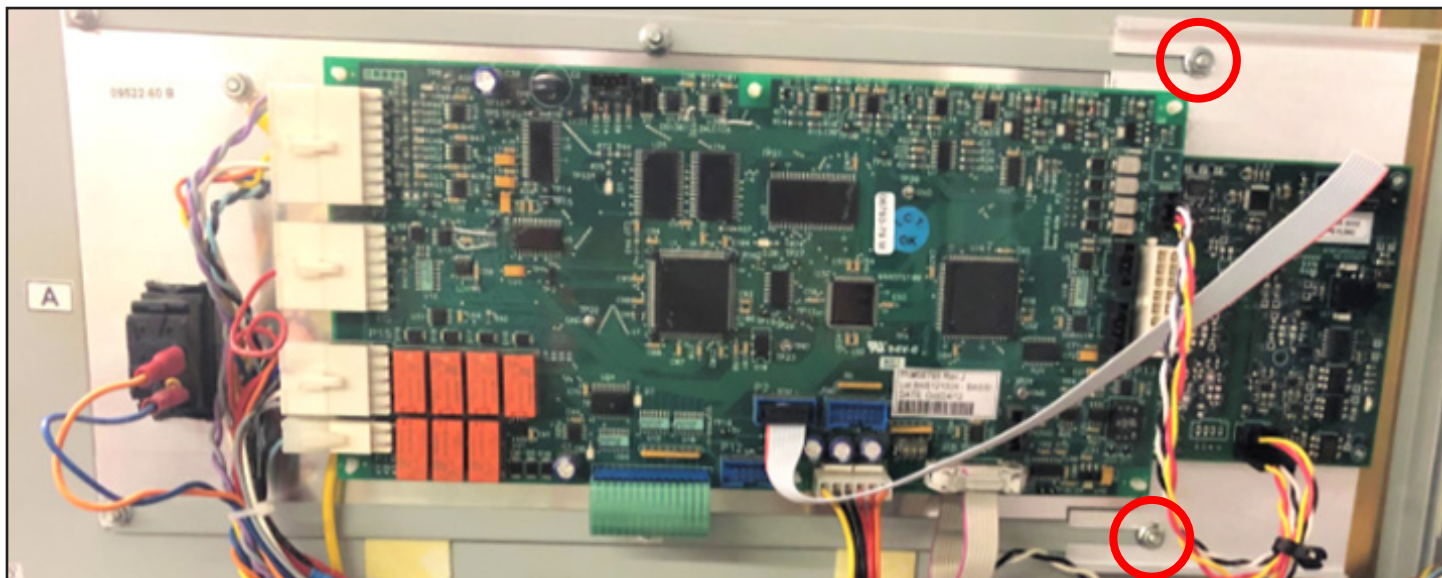

Figure 5 DVS100/DVS150 Channel A Control Board Assembly
- Loosen the two top- and bottom-right nuts from the DVS100/DVS150 control board assembly (Channel A) (Figure 5).
- Place the DVS100/DVS150 CAN board assembly on the Channel A of DVS100/DVS150 control board assembly, over the loosened nuts, and slide the CAN board toward the control board, as shown in Figure 5 approximately, and tighten the two nuts.